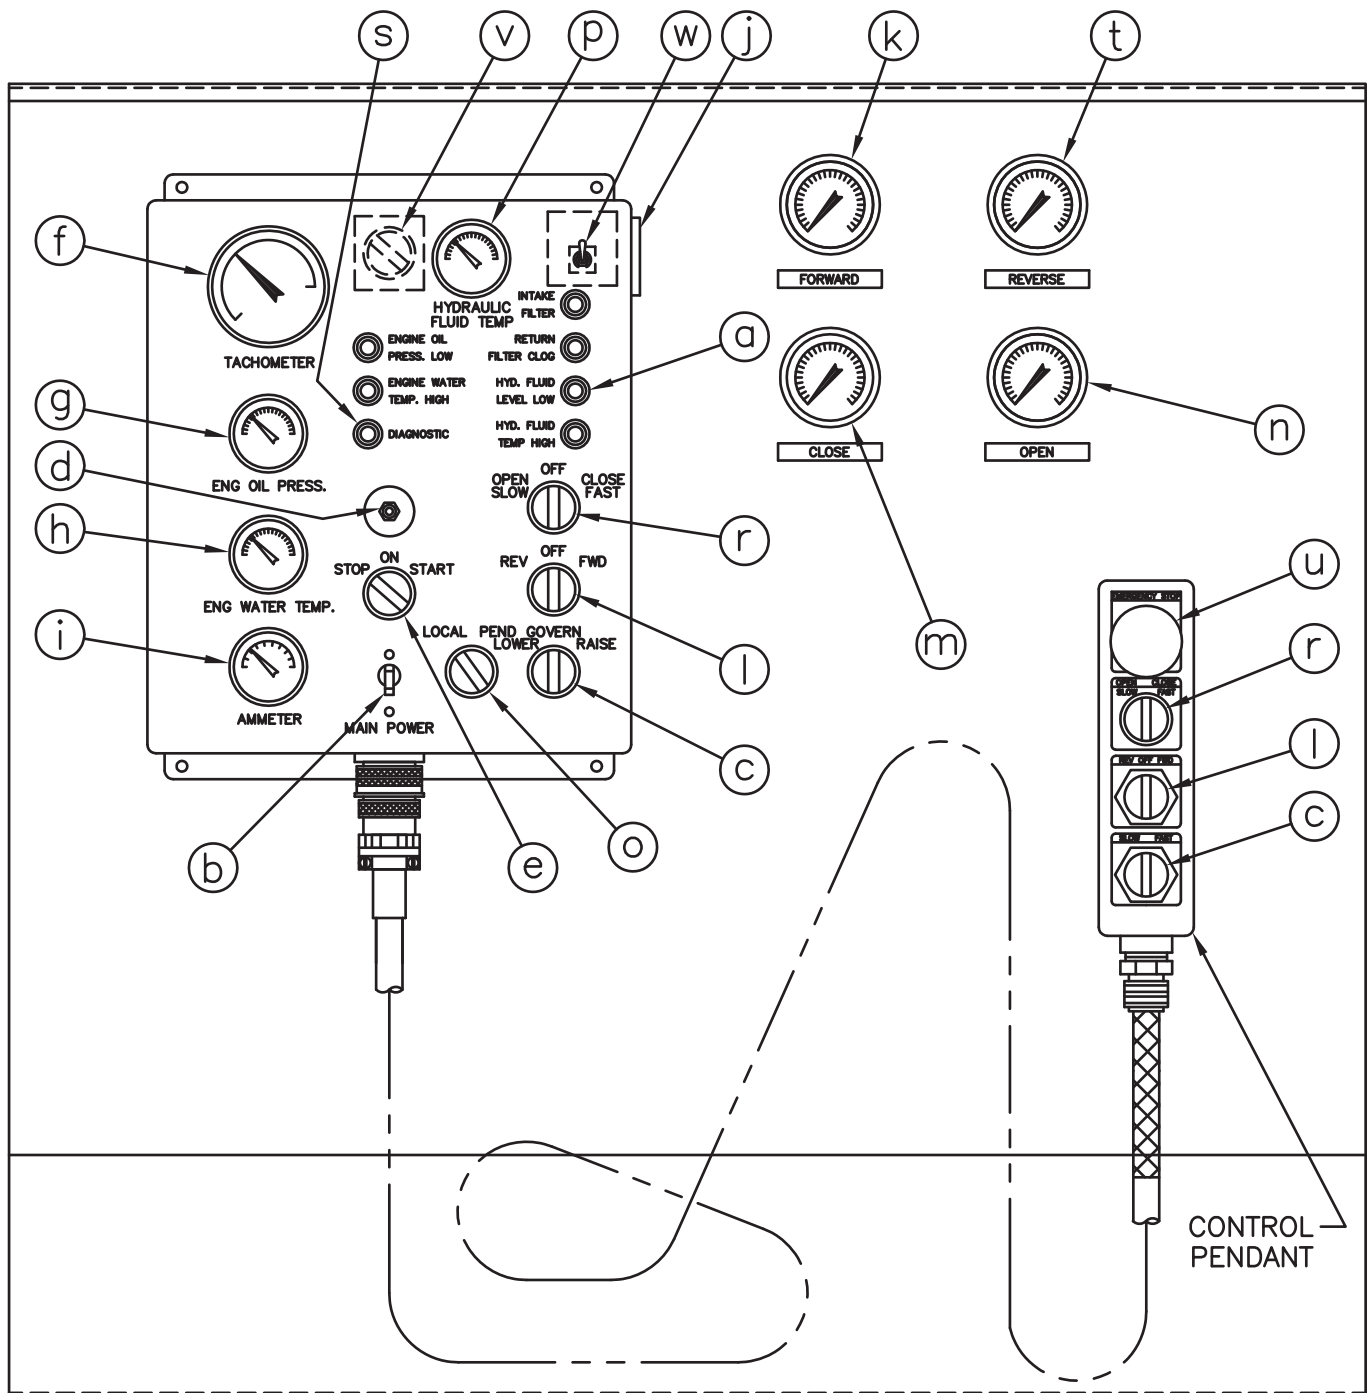

Fig.1
1. The control box (Fig. 1. page III-1) at the side of the power pack contains the controls and gages for the diesel engine, auger, and the OPERATION AND MAINTENANCE INSTRUCTIONS.
- a. Shutdown indicator lights (6) See notes below.